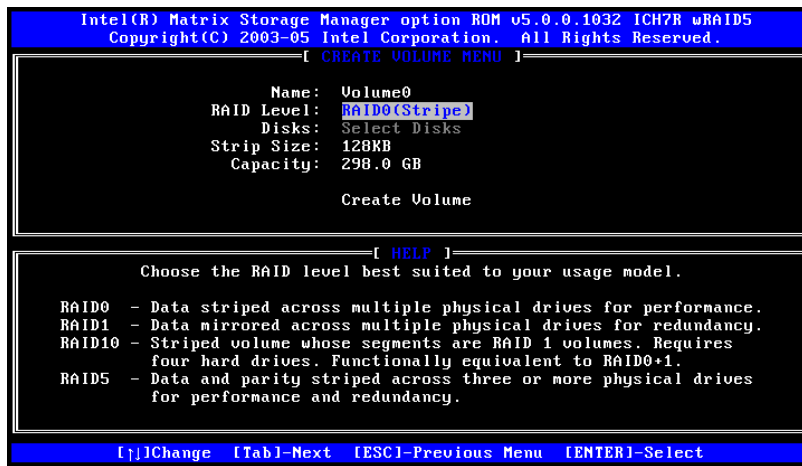

Figure G-3: Choose the Raid Level
Step 3: **Choose the RAID level.** Select a RAID level from the list. RAID levels include RAID 0, 1, 5 and 10. See **Figure G-3.**